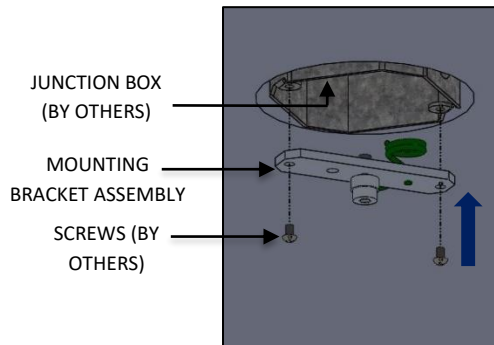

FIG. 13 – MOUNTING BRACKET ASSEMBLY INSTALLATION
11. Assemble the MOUNTING BRACKET ASSEMBLY to the JUNCTION BOX the fixture will mount to (by others) with screws (by others) as shown in below FIG. 13 below.